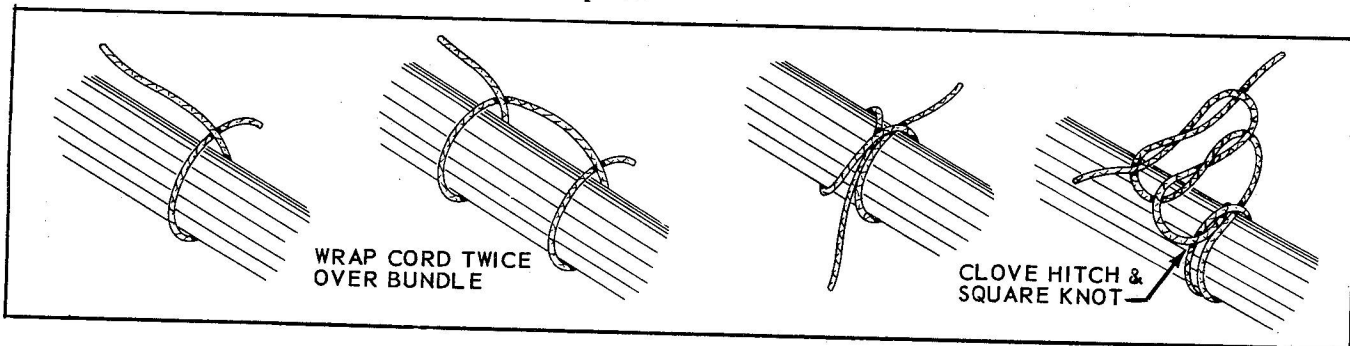

Figure 12-4. Making Ties
12-13. MAKING TIES. See Figure 12-4. Make tie as follows:
- Wrap cord around wire group or bundle, as shown in Figure 12-4.